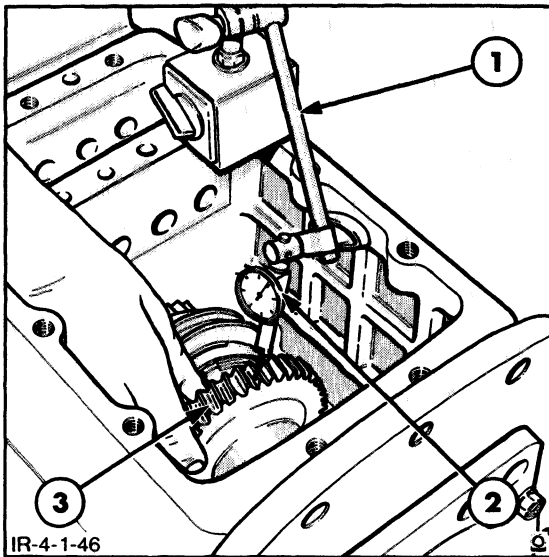

FIGURE 4-45
1. If transmission gear wear is suspected, then prior to removing the rear cover and output shaft bearing retainer, check the gear backlash. Position a dial indicator gauge on the transmission casing as shown in Figure 4-45, and measure the backlash on output shaft gears.